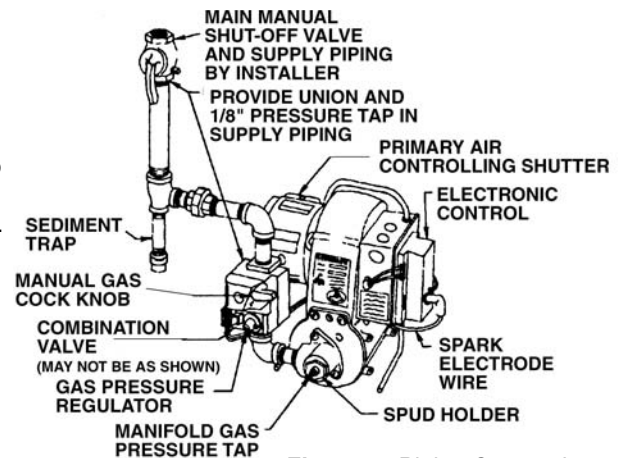

Figure 5: Piping Connections
⚠ CAUTION: The available gas pressure should be within the limits shown in SPECIFICATIONS section. Excessive pressure will damage Combination Valve and Regulator. If the supply pressure exceeds the 14.0" W.C. maximum, a suitable intermediate main regulator must be installed ahead of the Main Manual Shut-Off Valve shown in Figure 5.
□ Provide a sediment trap, union and 1/8" pressure tap in piping close to burner as shown in Figure 5.
□ If the burner piping must be rearranged because of space limitations, be sure to carry out the general arrangement shown in Figure 5. Install the combination valve in any position except up-side down.
- TO CHANGE MAIN SPUD: Turn Manual Gas Cock Knob on Combination Valve to **OFF**. Remove the Spud Holder. See Table 3 and Figure 5 or 8.
□ The tap for manifold gas pressure measurement is located in the burner spud holder (see Figure 5 or 8). Remove plug for access.